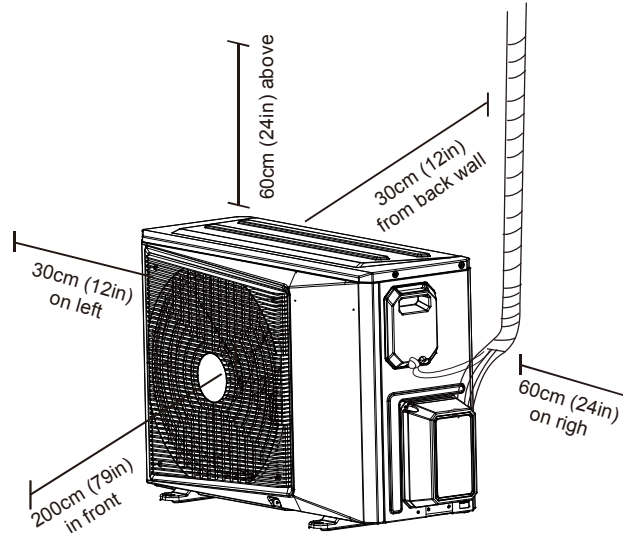

Fig. 5.1
1. Meets all spatial requirements shown in Installation Space Requirements (Fig. 5.1)